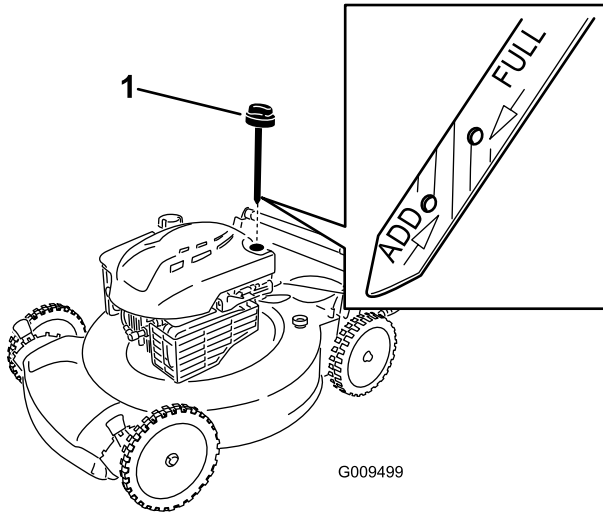

Figure 9
2. Remove the dipstick (Figure 9).
5. Remove the dipstick and read the oil level on the dipstick; refer to Figure 9.